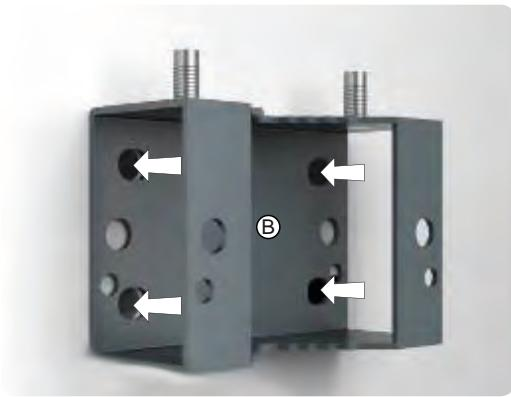

Fig. 21: Marking mounting holes for bracket ⑧
1. Hold the bracket **(B)** to the installation location and mark the position of the 4 mounting holes; see arrows in Fig. 21.